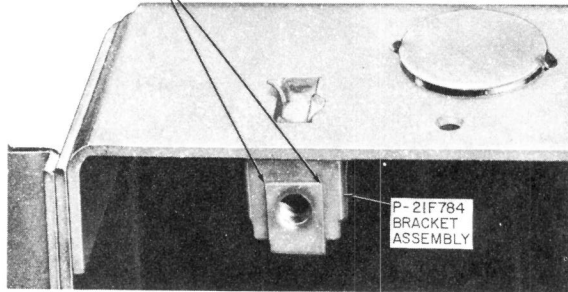

Fig. 8—P21F784 Bracket Assembly
- Revise Fig. 8
The P-21F784 bracket assembly (Fig. 8) is furnished on current models of 113C, D,